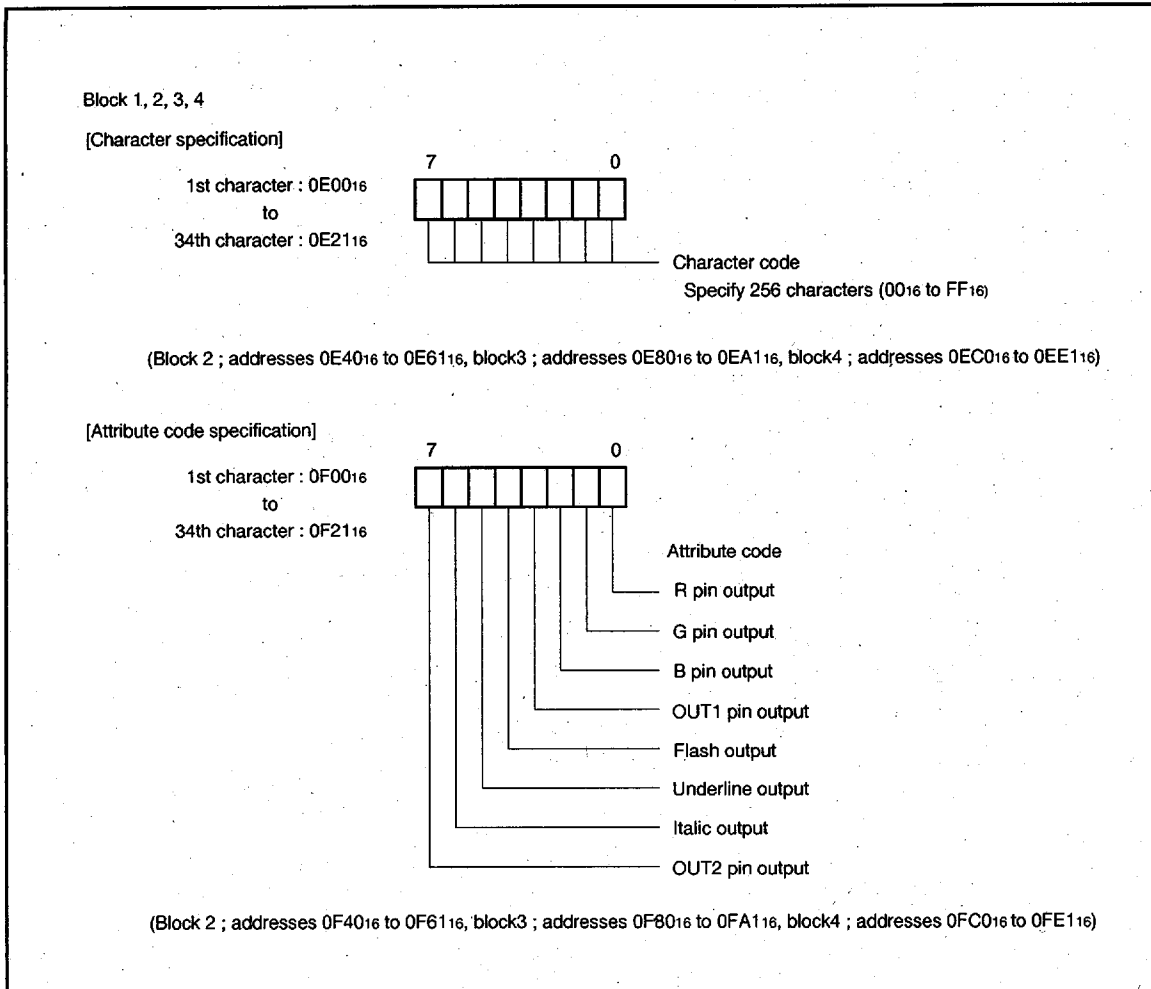

Fig. 57 Structure of CRT display RAM
For example, to display one character at the first character position (the left edge) of block 1, write the character code to address 0E0016, and write the attribute code to address 0F0016. For details of the attribute codes, refer to section (6) Attribute code. The structure of the CRT display RAM is shown in Figure 57.